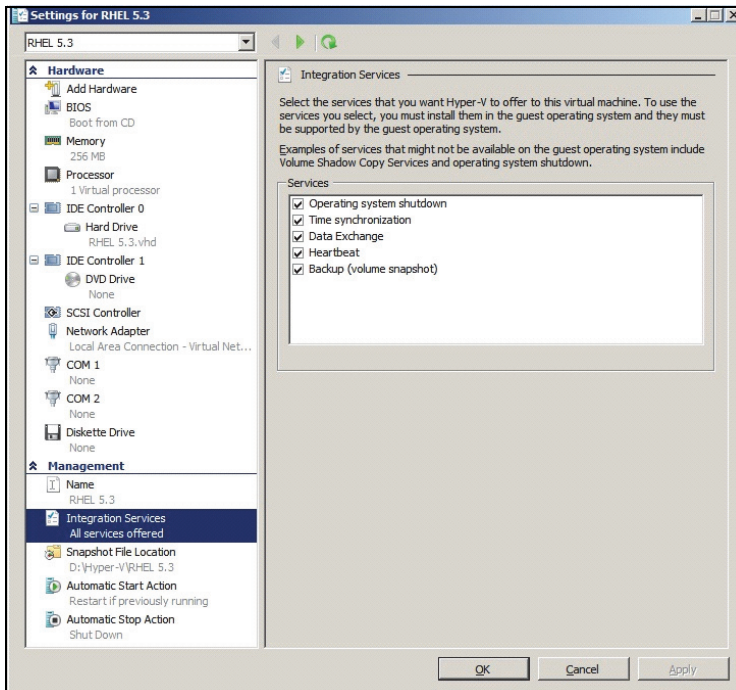

Figure 73. Set Operating System Shutdown
- 3 Check the **Operating system shutdown** check box (see Figure 73).